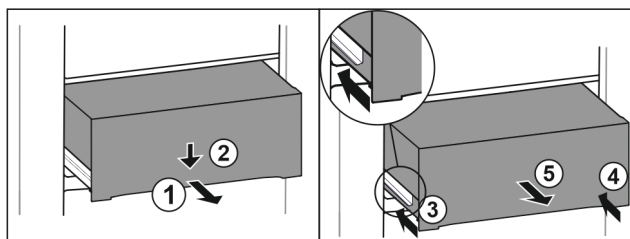

Fig. 69
- Pull out drawer half-way. Fig. 69 (1)
- Push the drawer down at the front. Fig. 69 (2)
- Push the left rail in by about 2 cm. Fig. 69 (3)
- Push the right rail in by about 2 cm. Fig. 69 (4)
- Remove drawer to the front. Fig. 69 (5)